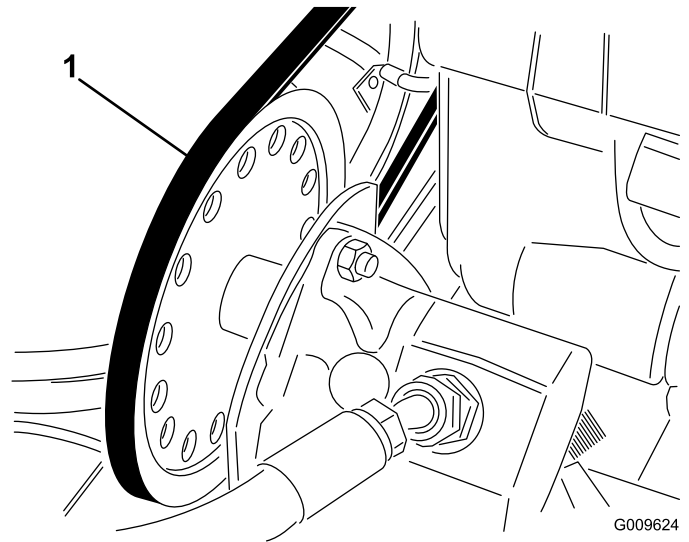

Figure 59
- A. Loosen the nuts securing the hydraulic pump to the engine frame (Figure 59).